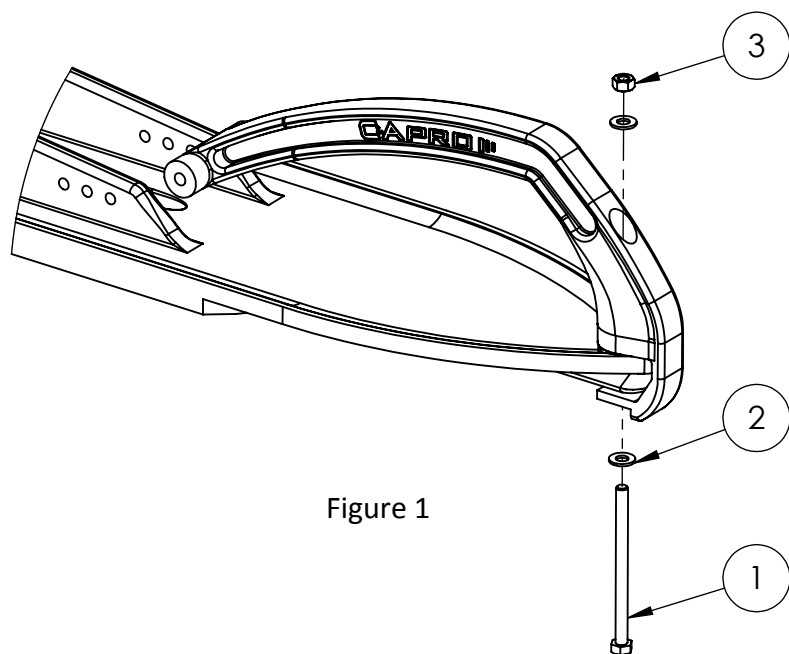

Figure 1
3. Slide tip of handle into ski joint and insert hardware (see Figure 1).